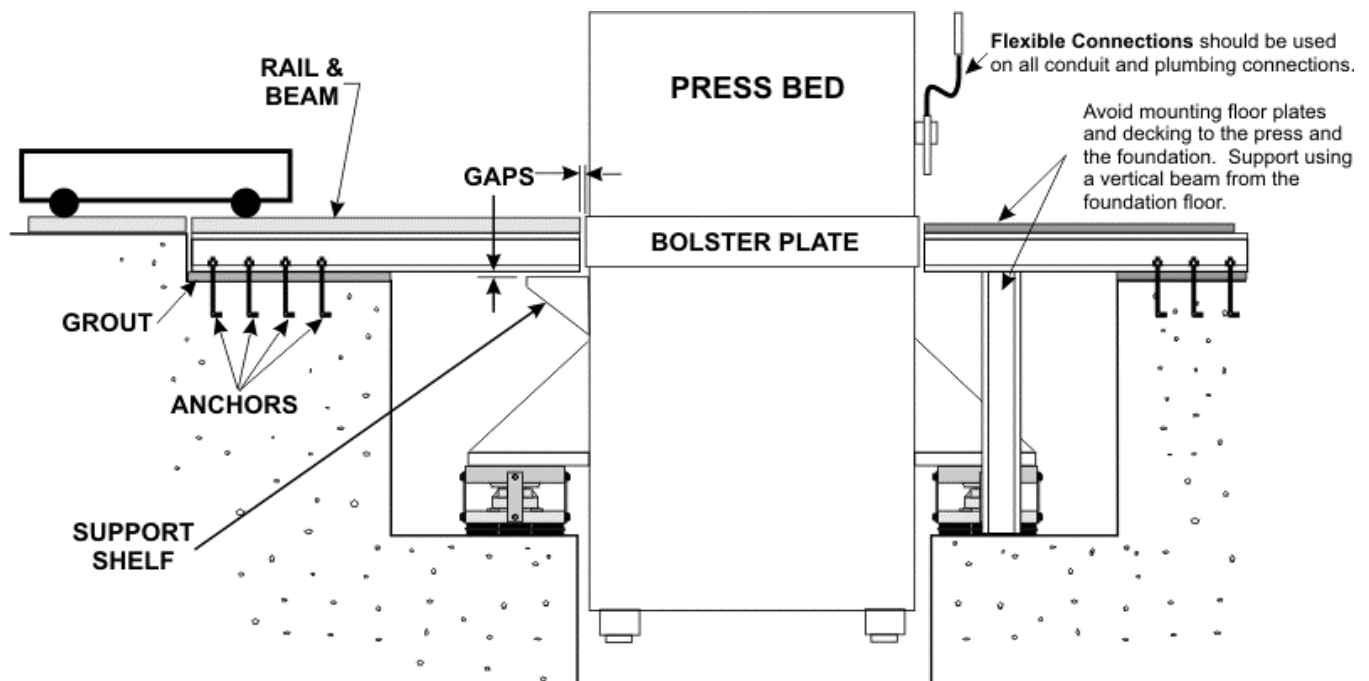

FIGURE 4
7. There should not be any solid connections between the machine and the foundation or building structure. Flexible connections are recommended for all plumbing and electrical conduit. Floor plates, walkways, railings, feeds, rolling bolster rails, etc. should *not* be attached to *both* the machine and the floor, foundation or building. Rigid connections will “short-circuit” isolation effectiveness. See Figures 4 and 5 below.
One of the following methods, shown in Figures 4 & 5, should be used. Either method will allow the press to move slightly up and down during operation and not restrict leveling adjustments.
Method One (Figure 4)
- The end of the beam/rail can also be supported by a vertical beam supported by the foundation pit or floor similar to the floor plate and decking recommendation shown in Figure 4.